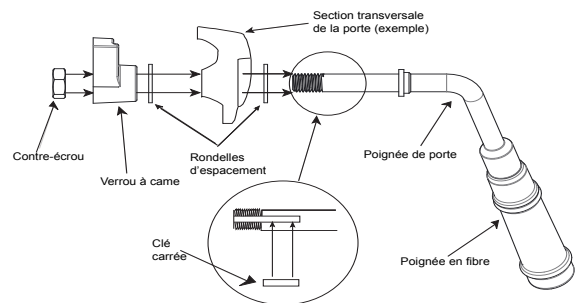

Figure 19.1
2. Install additional washer(s) as shown in **Figure 19.1**
6. Install fiber handle (**Figure 19.1**).